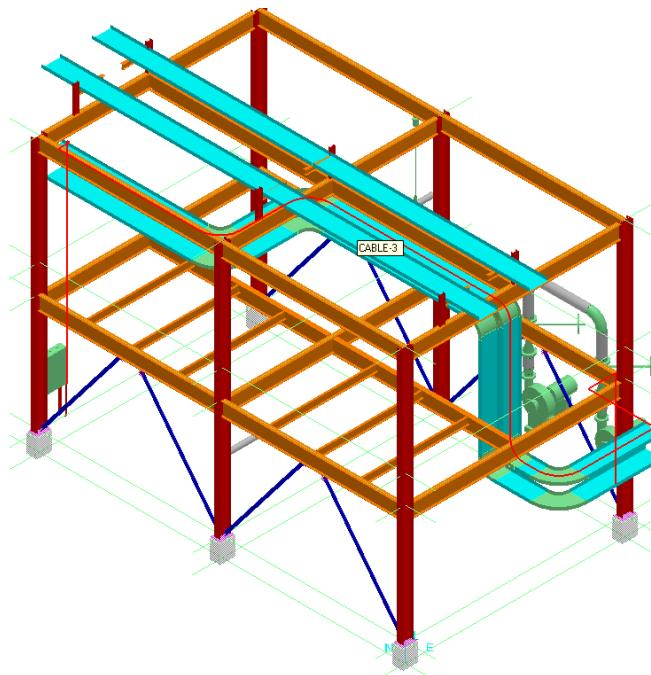

Figure 19: Selected Cable
- Select the cable graphically, as shown in Figure 19.